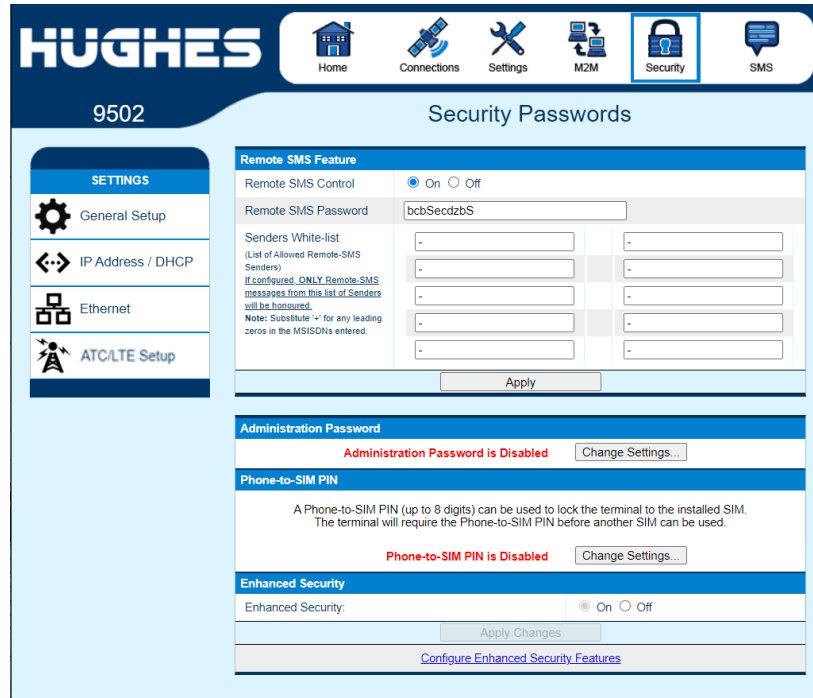

Figure 23: Enhanced Security page link
- Enhanced Security. If the Enhanced Security feature is enabled, a link to the Enhanced Security page will be displayed at the bottom of the page as shown in Figure 23. The remote SMS password will be shown encrypted.